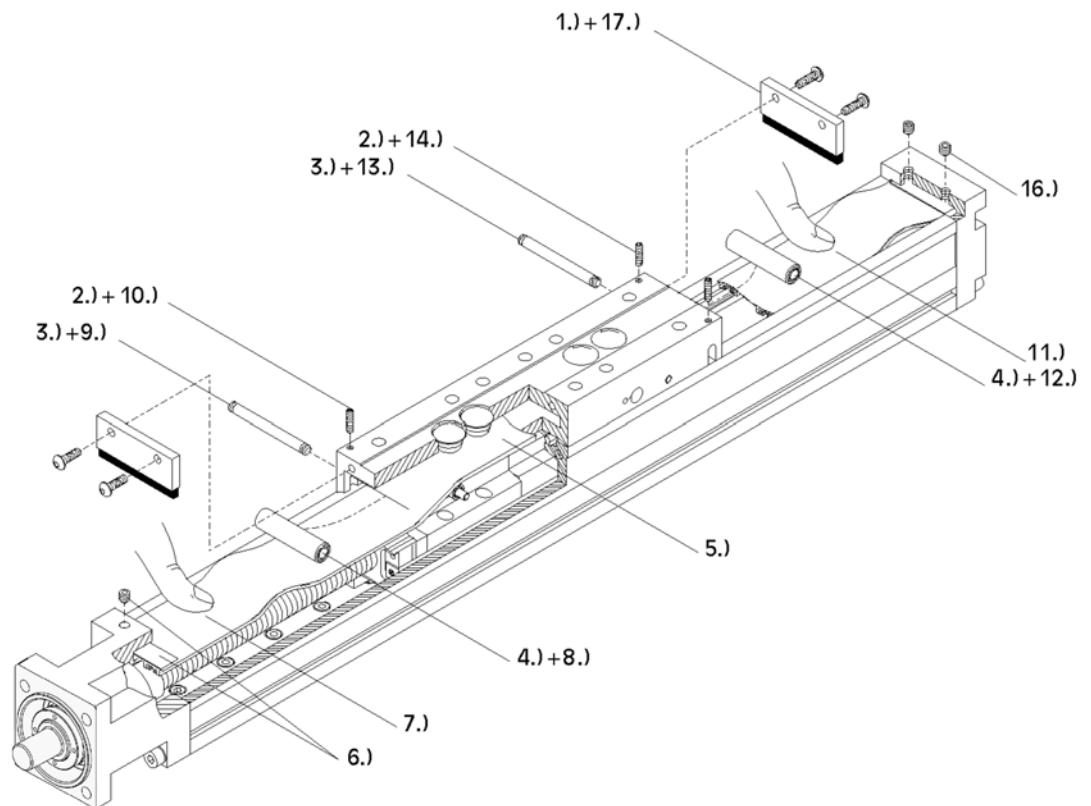

Fig. 16: Replacing the cover strip
1. **Fig. 16:** Remove both scraper brushes.